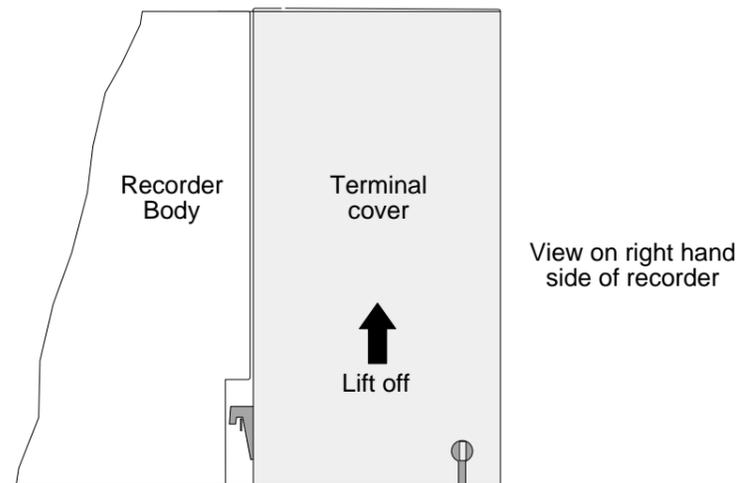

Figure 3 Lift terminal cover off its hinge.
- 7 Close the terminal cover, and lift it off, as indicated in figure 3.